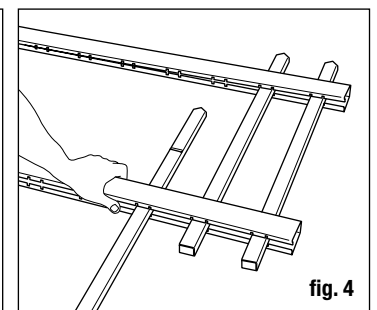

fig. 4
- Continue this process until all pickets are inserted into the rails with the tabs and notches aligned (fig. 4).